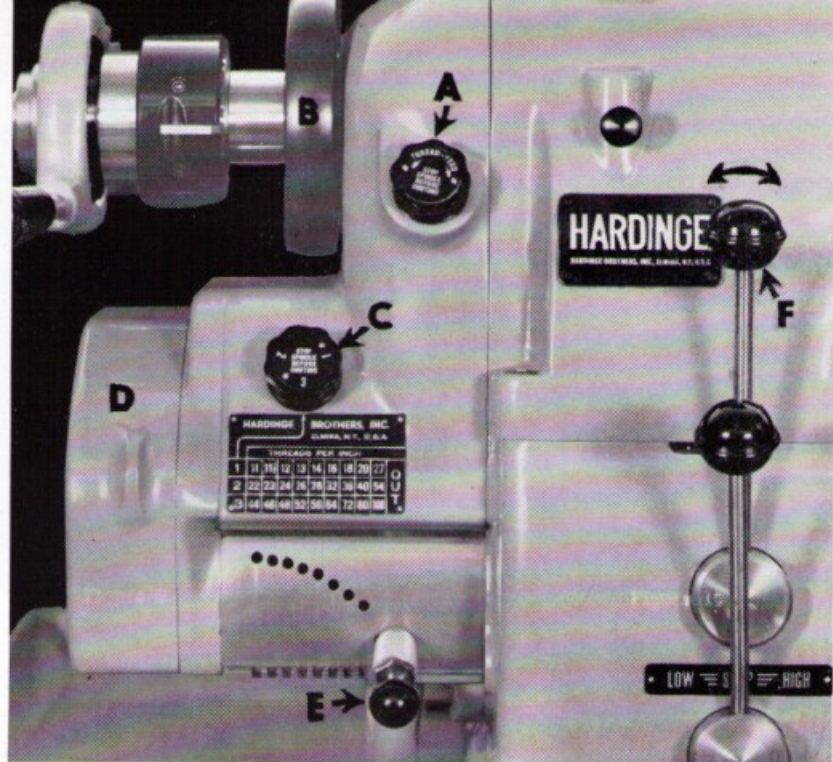
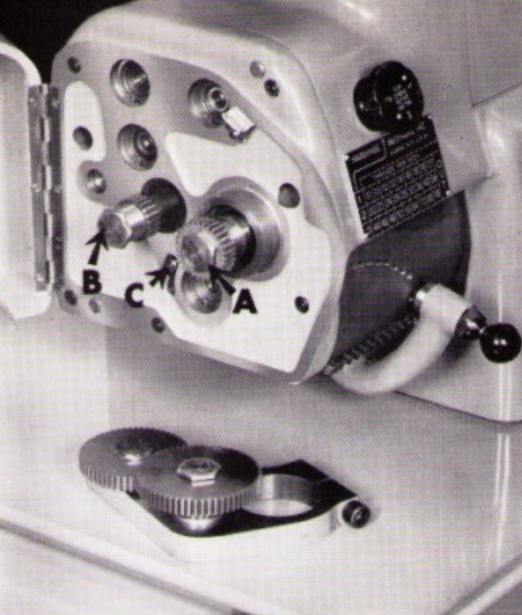

Figure 19
Figure 20
## GEAR BOX FOR THREADING ONLY — Figure 19
To engage the gear box turn knob "A", Figure 19, counterclockwise in the direction of arrow marked "THREAD". When turning knob "A" the teeth of the sliding gear within the gear box may not mesh with the headstock spindle gear teeth. If so, turn the headstock spindle by means of spindle handwheel "B", Figure 19.
**IMPORTANT:** Before turning spindle, release spindle brake to obtain free spindle — see instructions on Page 13. While turning spindle also turn knob **"A"**, Figure 19, to left until a definite click is heard.
**IMPORTANT:** Knob **"A"**, Figure 19, should always be set in the **"Feed"** position except when threading, thus disconnecting gear box from headstock spindle.
Knob **"C"**, or three change knob, Figure 19, has three numbered positions — 1, 2 and 3. These numbers correspond with the 1, 2 and 3 given at the extreme left side of the gear box thread chart plate. To select the proper thread, numbers 1, 2 or 3 on knob **"C"** must be set at the bottom position to line up with the pointing arrow. The knob is shown in the number 3 position in Figure 19. The tumbler or nine change handle **"E"** has nine positions — each lining up with gear box thread chart plate. Combining the three positions of the three change knob and nine positions of the tumbler handle, 27 changes are obtained.
### **THREE CHANGE KNOB — Figure 19**
When number one of knob **"C"**, Figure 19, is in line with the arrow, any thread in row one of thread chart can be selected by changing the tumbler handle or nine change handle **"E"**, Figure 19, to the desired thread in that row.
The three change knob **"C"**, Figure 19, controls a sliding gear cluster. Number three on the knob, when lined up with the arrow on gear box chart, is in the center position. To place knob **"C"** in the number one position, turn to **"RIGHT"**. Turn to **"LEFT"** to place number two position in line with arrow.
In the event the sliding gear cluster does not engage the other gears in the gear box properly to bring the desired number on three change knob **"C"** in line with arrow, open the change gear cover **"D"**, Figure 19, and turn shaft **"A"**, Figure 20, Page 33, by hand until the gears mesh properly.
To make a selection on the gear box thread chart, pull the spring pressured black knob **"E"**, Figure 19, out as far as it will go and lower until it will move sideways to the desired notch directly under the thread required. Raise the handle and let plunger drop into hole. If the tumbler handle will not raise far enough to drop plunger into hole, open change gear cover and rotate shaft **"A"**, Figure 20, see opposite page, until gears mesh and handle raises permitting plunger to seat.
Fastened to the tumbler handle bracket within the gear box is a 5/16" round safety bar **"C"**, Figure 20, that extends out through a hole in the left side of the gear box. This bar is to prevent applying change gears outside the gear box until the tumbler handle is placed in the **"OUT"** position.
### OUTSIDE CHANGE GEARS — Figures 20 and 21
The outside change gears are used to cut threads not provided in the quick change gear box. A set of five gears and a bracket are standard equipment with each machine. These gears, when set up to the gear chart — see Page 34, will cut 10 threads per inch. Three of the gears are shipped on the bracket and the other two are in place on the shafts as shown in Figure 20, one on the end of the lead screw shaft "A", and the other on the end of the sliding cluster gear shaft "B".